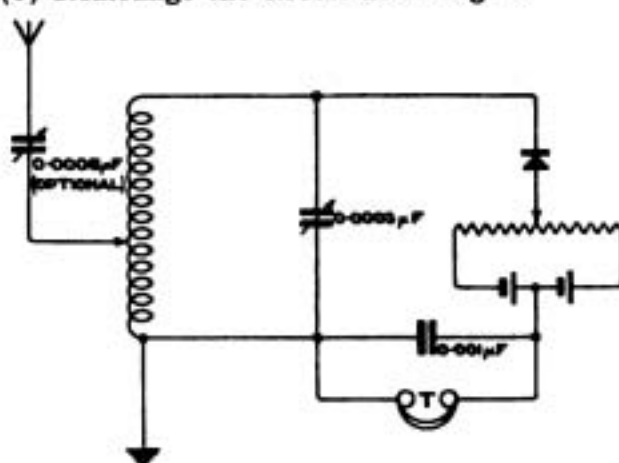

Fig. 1.
L.W.H. (Mitcham) has a complicated-looking crystal circuit, and asks (1) If certain condensers are necessary. (2) For the gauge of the wire for the inductance.
(1) Rearrange the circuit as in Fig. 1.